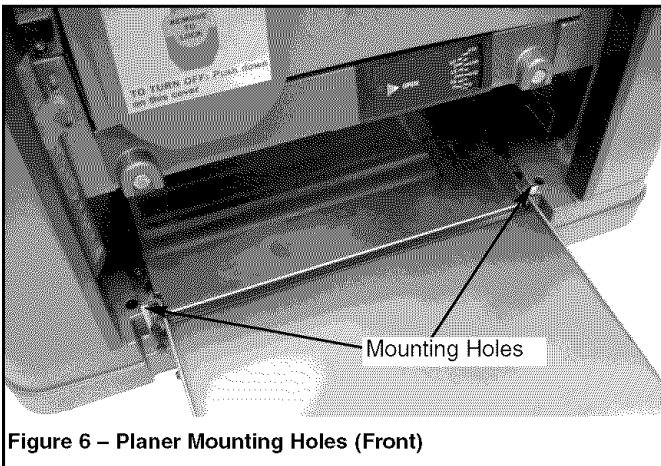

Figure 6 – Planer Mounting Holes (Front)
Refer to Figure 6.
- The base of the planer has four mounting holes, two in front (shown in Figure 6) and two in the rear.